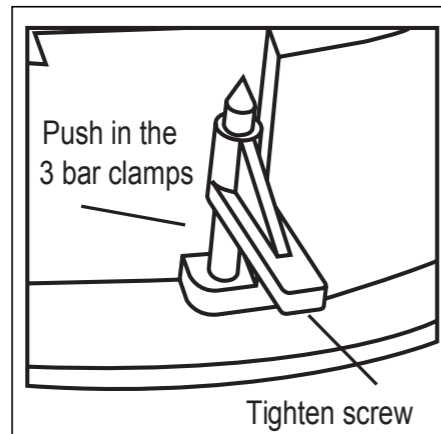

Fig. 6
- a. Before inserting the fan into the opening, push the three bar clamps all the way out to hold the fan in the ceiling. Push the fan into the ceiling opening and secure the exhaust fan by tightening the screws securely (Fig.6)